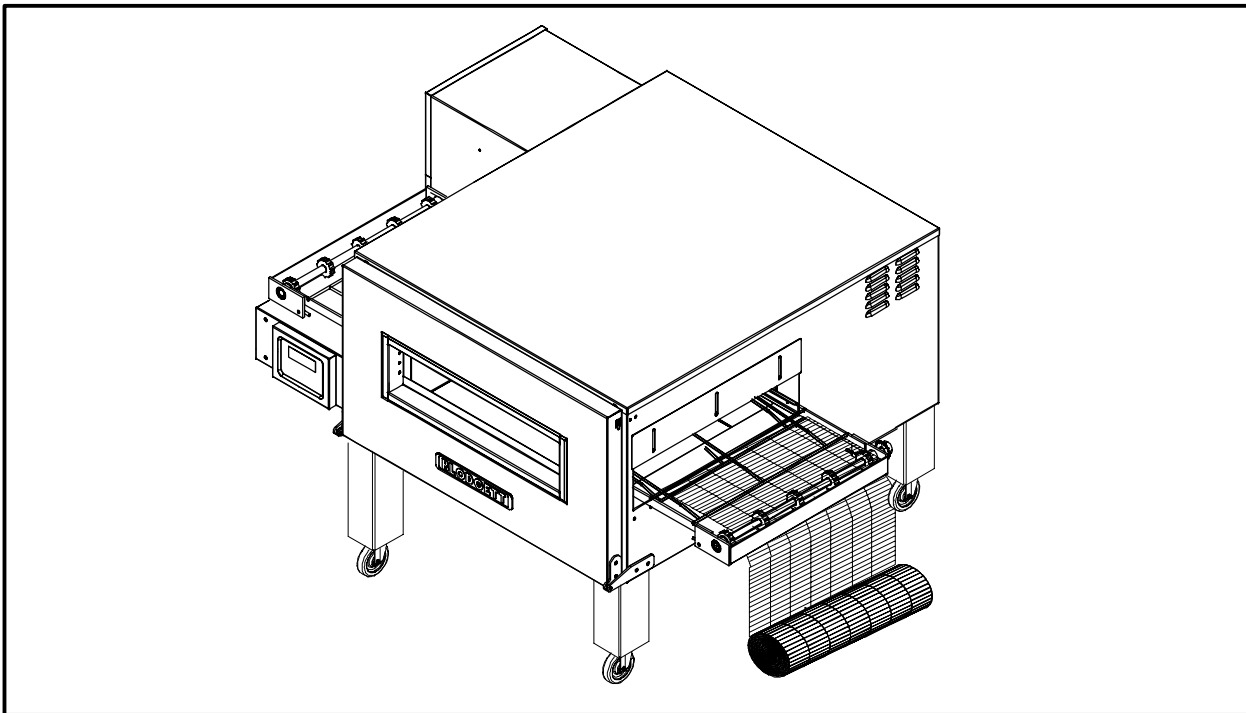

Figure 9
1. Thread the conveyor belt from the right side of the oven. The conveyor belt has loops on both ends. The loops must travel backwards on the conveyor rack to prevent belt damage. See Figure 9 for proper belt orientation.